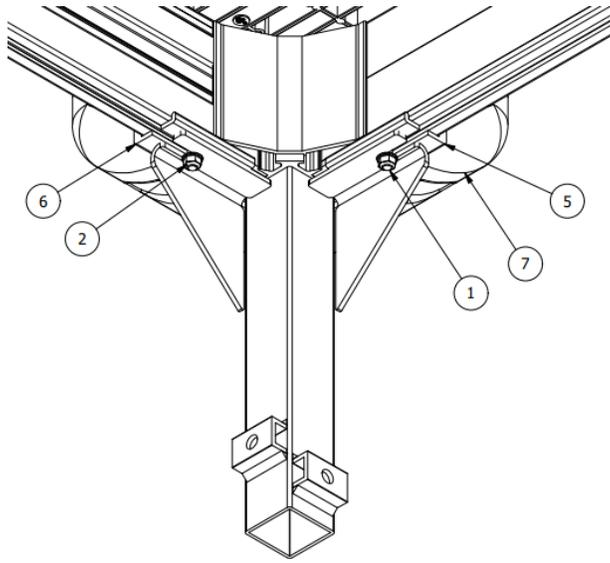

FIGURE 3
3. After the left/right corner brackets are connected to the corner bumper, place the corner bumper with corner brackets attached, into the dock rail. Re-insert the leg of the dock into the corner slot and slide the bolts previously loosened before to take the leg off, back over the brackets and tighten the brass nuts (figure 3).